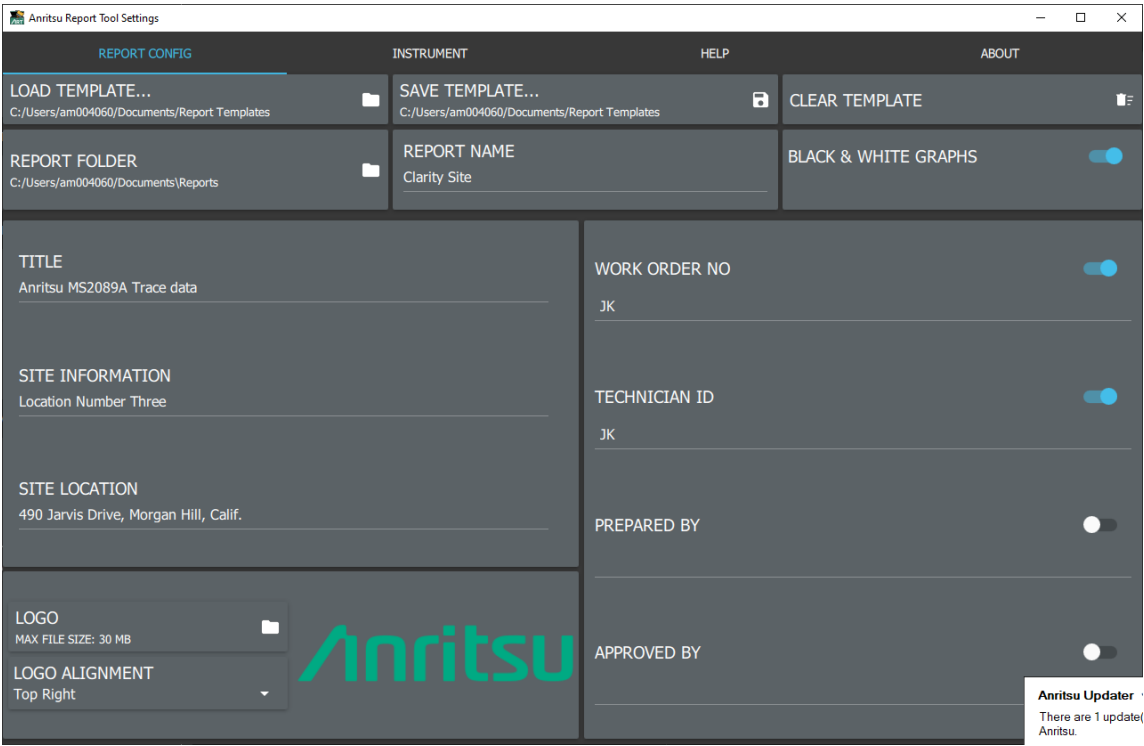

Figure 2-6. Settings - Report Config Tab
6. Marker Functions Settings: See Figure 2-6 on page 2-16.